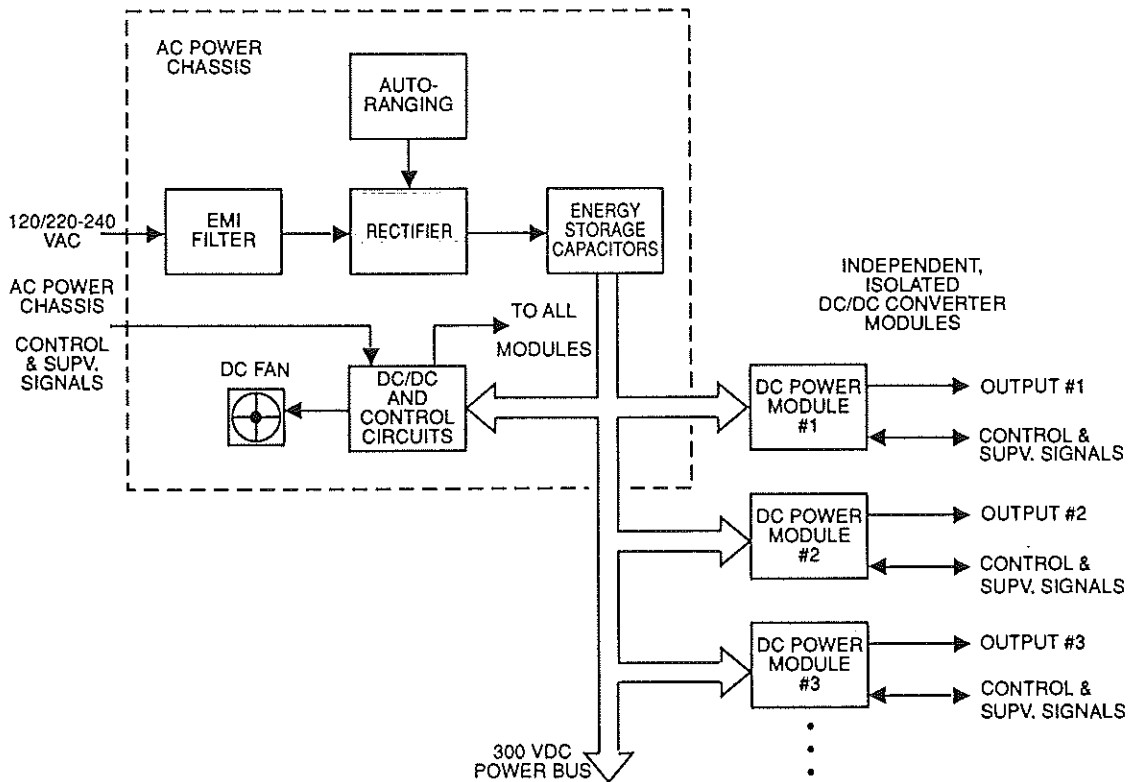

Figure 2. U Series Power System Block Diagram.
- 5.1 **AC Power Chassis.** The UNIMOD U Series is designed as a distributed power system. See the block diagram, Fig. 2. The front end (AC Power Chassis) has an input EMI filter to suppress line noise and high frequency transients both from the AC power line and from the power system to the line. An autoranging circuit automatically selects the correct range for either 120 VAC or 220 to 240 VAC input voltages. Electronic inrush current limiting controls the initial AC input current on power up.